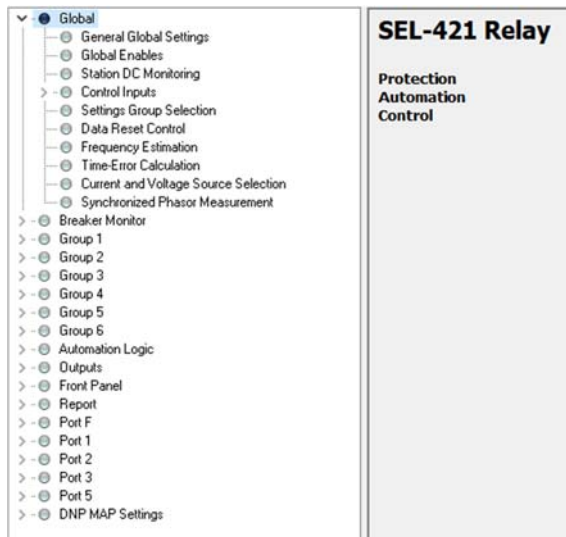

Figure 55: SEL-421 Settings Editor Main Window
40. Open Global settings in the drop-down menu on the left side of the Settings Editor main window (Figure 55).